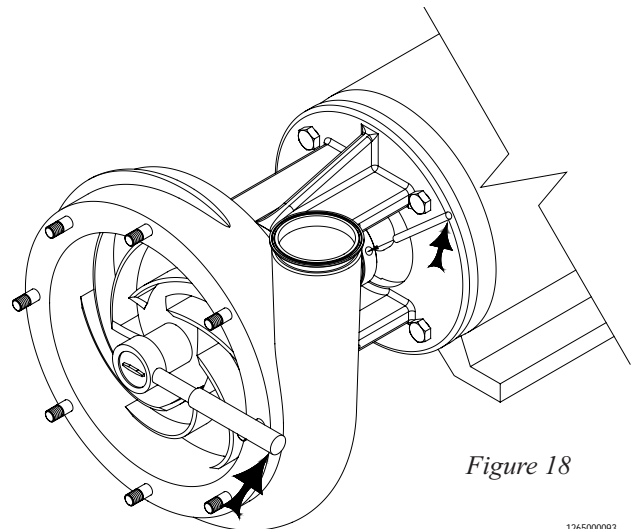

Figure 18
- a) Remove the cover nuts (25) with the 15/16" socket.
- b) Remove the pump cover (24) and the cover gasket (21).
- c) Remove the guard nuts (3) and remove shaft guards (4).
- d) Place a 5/16" diameter rod in a hole in the shaft (7). Hold the rod to keep the shaft from rotating while loosening the impeller nut (23) with the 1 1/4" socket wrench (*Figure 18*).
- e) Remove the impeller nut and impeller nut gasket (25).
- f) Remove the impeller (22) from the pump shaft (7) by grasping an impeller blade in each hand and pulling the impeller toward you.
- g) After the impeller is removed, place it on a clean flat surface with the blades facing down. The rotating seal is located in hub of the impeller. Remove and discard the rotating seal (33), o-rings (25 & 41) and wave spring (34).
- h) Next remove and discard the stationary seal (19) by pushing on back of seal and sliding it forward out of the housing.